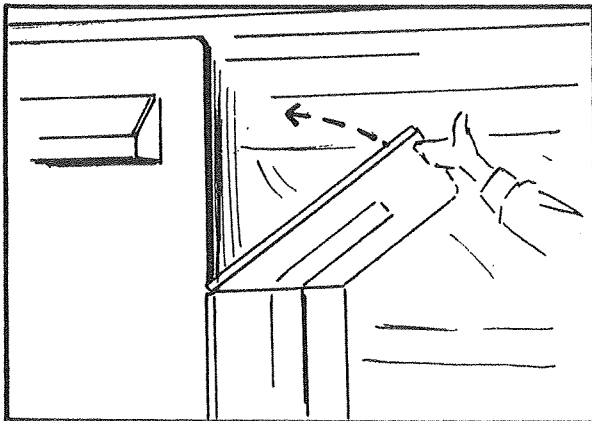

FIGURE 16
23. Raise the upper section of the trailer interior wall to its full vertical position and retain in place by fully engaging the slider lock retainer. See Figures 16 and 17.